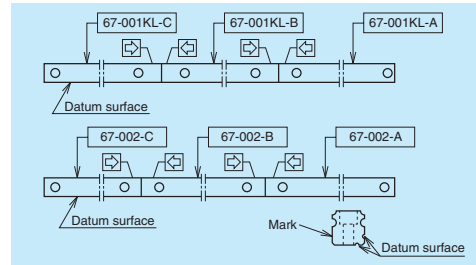

Fig. 10.25
- The rails with butting specification are marked with alphabet (A, B, C ...) and an arrow on the opposite side of the mounting datum surface. Use the alphabets and arrows for assembly order and direction of the rail (Fig. 10.25).